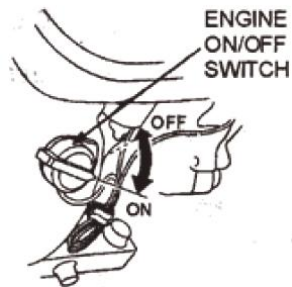

FIG.9
9.5 Place the engine ON/OFF switch (FIG. 9) in the "ON" position.